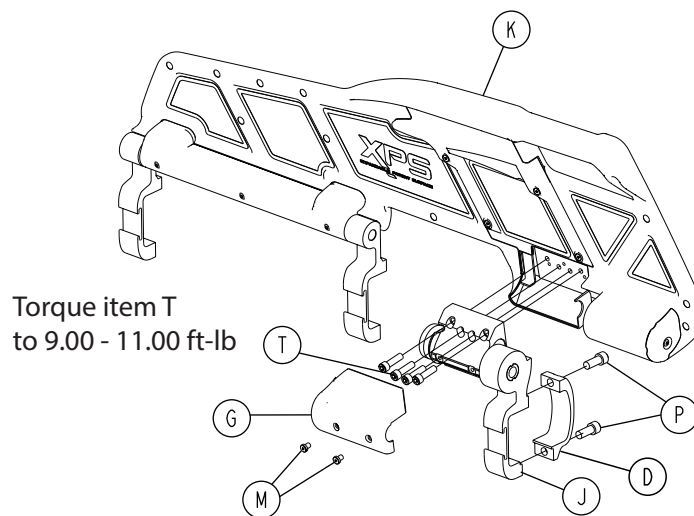

Figure 17 – Ratchet assembly components (XPS)
5. Using a 3/32" hex wrench, remove the two socket head cap screws (M) that secure the ratchet cover (G) to the ratchet assembly (J) (Figure 17). Remove and save the ratchet cover. Save the screws.
6. Using a 1/4" hex wrench, remove the socket head cap screws (P) that secure the siderail clamp (D) to the ratchet assembly at the foot end of the main assembly. Save the screws.
7. Using a 3/16" hex wrench, remove the four socket head cap screws (T) that secure the ratchet assembly to the overmold assembly (K). Remove and discard the ratchet assembly. Save the screws.